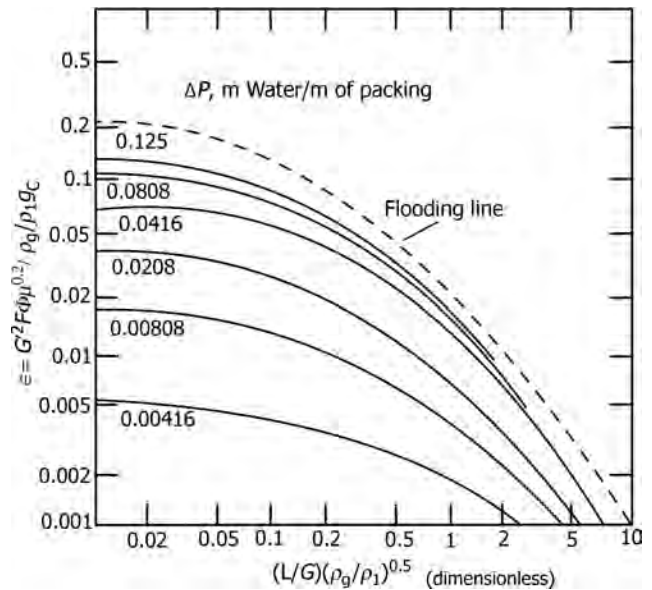

FIGURE 16.32 Generalized pressure drop and flooding correlation for packed columns.
- One version of the flooding and pressure drop relationship for a packed column is in the *Sherwood correlation*, shown in Figure 16.32.
- In Figure 16.32, L and G are mass flow rates (any consistent set of units may be used as long as the term is dimensionless), ρ_g is the density of the gas stream, and ρ_L is the density of the absorbing liquid.